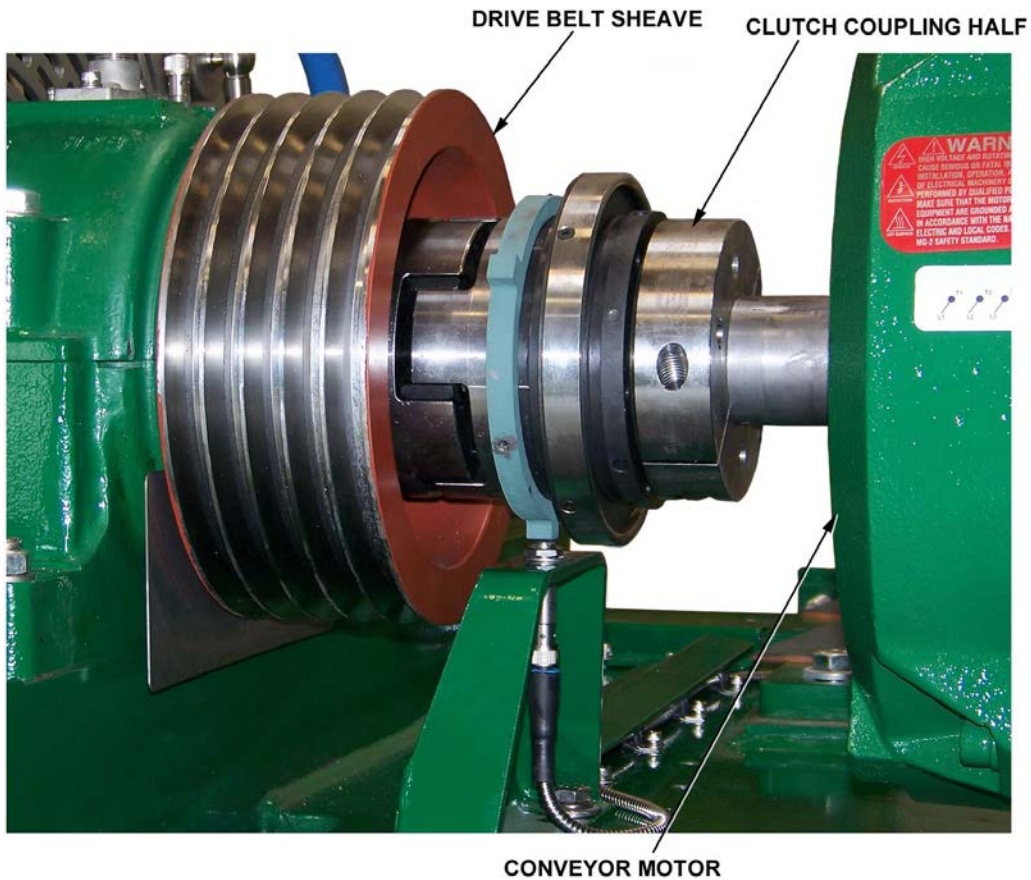

Figure 5-2. Conveyor Drive Clutch
3. Loosen mounting screws securing torque limiter clutch half to conveyor drive motor shaft (Figure 5-2), and slide clutch half toward motor until end of motor shaft is visible.